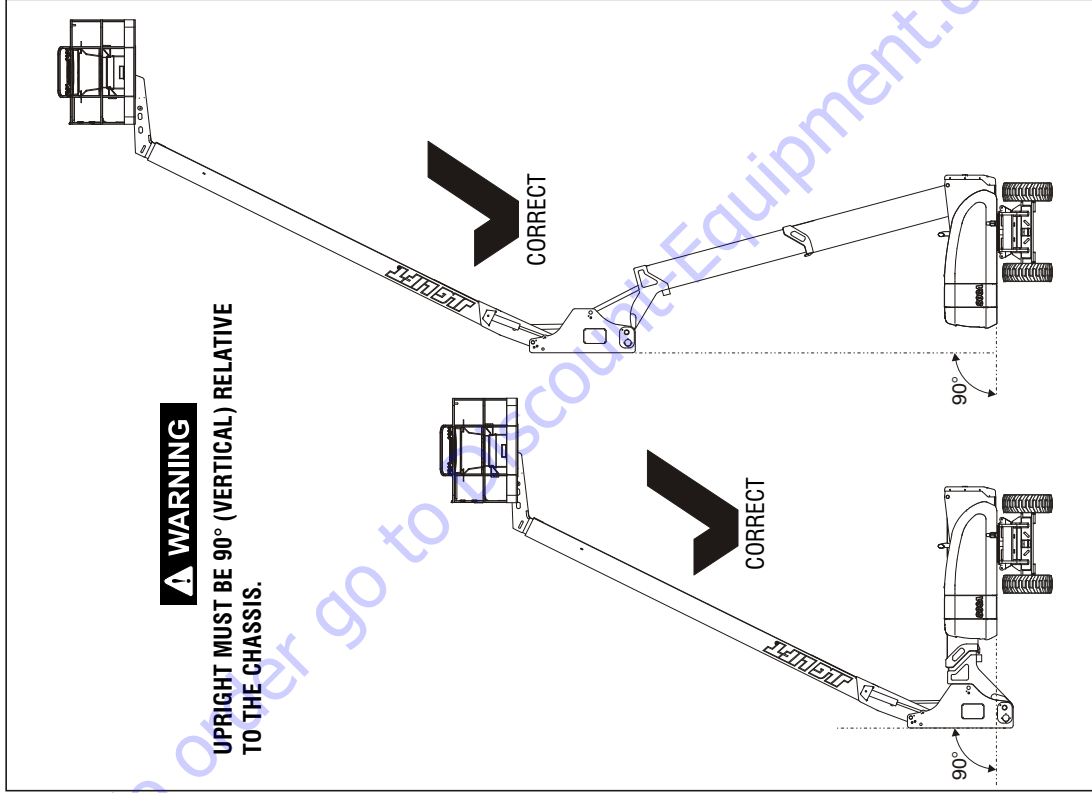
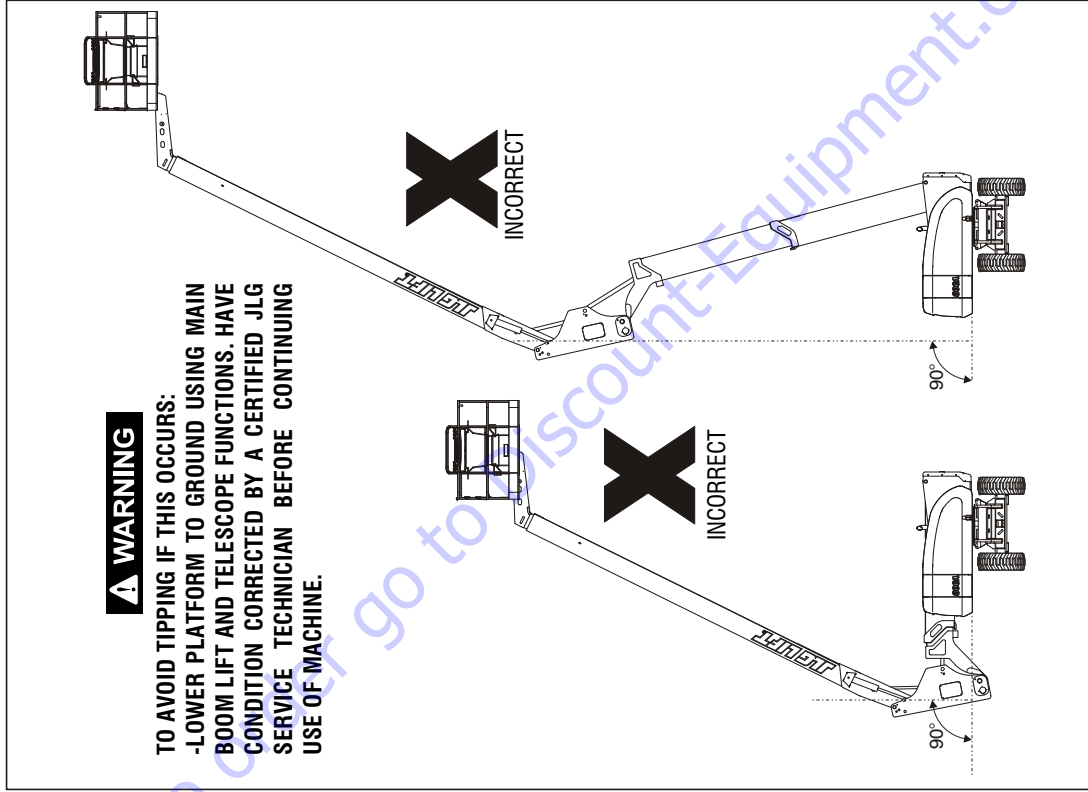

Figure 2-6. Boom Upright Positioning - Correct
Figure 2-7. Boom Upright Positioning - Incorrect
43. **Upright** - In vertical position, relative to the chassis. If out of alignment, do not use machine until the upright has been synchronized in accordance with Section 4.16. Refer to Figure 2-6. and Figure 2-7.
horizontal position. While raising and lowering the tower boom assembly, observe the position of the upright. Ensure that the upright remains vertical relative to the chassis. Refer to Figure 2-6. and Figure 2-7.